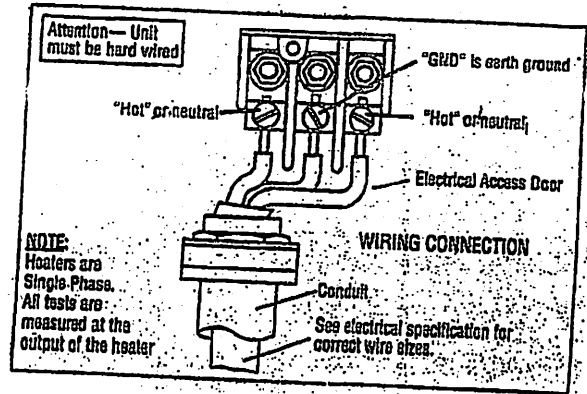

FIGURE 4 Wiring Connection
5. Connect wiring. Attach ground wire to center terminal and hot wires to outer terminals (See Fig. 4)